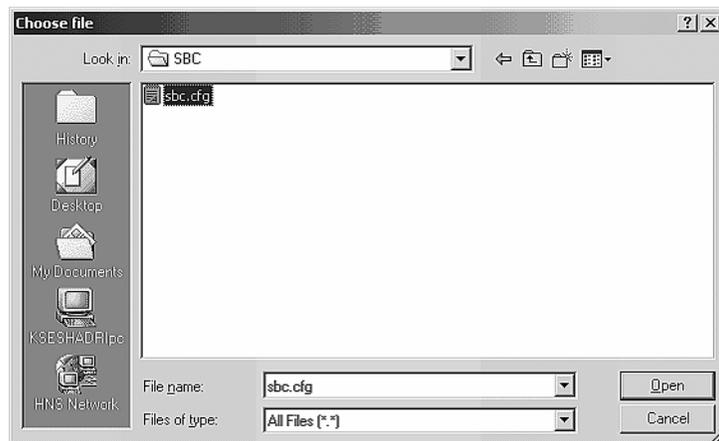

Figure 16: Locating the sbc.cfg file
6. Select the file and click **Open**. See Figure 16.